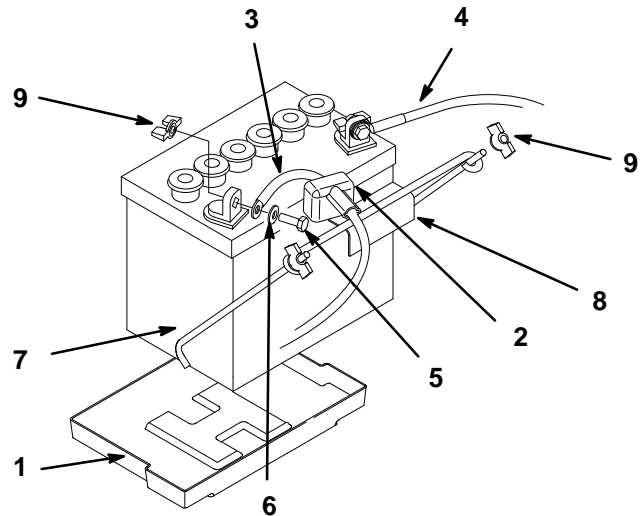

Figure 4
2. Position battery in tray with terminal posts toward the engine (Fig. 4).
4. Install the positive (red) battery cable to positive (+) battery terminal then negative battery cable to the negative (-) battery terminal. Secure cables with (2) 1/4 x 3/4” (19 mm) bolts 1/4” washers, 1/4” lock washers and 1/4” locknuts.
5. Secure battery with (2) support rods, a battery clamp and (2) 1/4” wing nuts. Position support rods in mounting holes (Fig. 4). Tighten wing nuts so battery is held securely in position and will not slide. **DO NOT OVERTIGHTEN.**